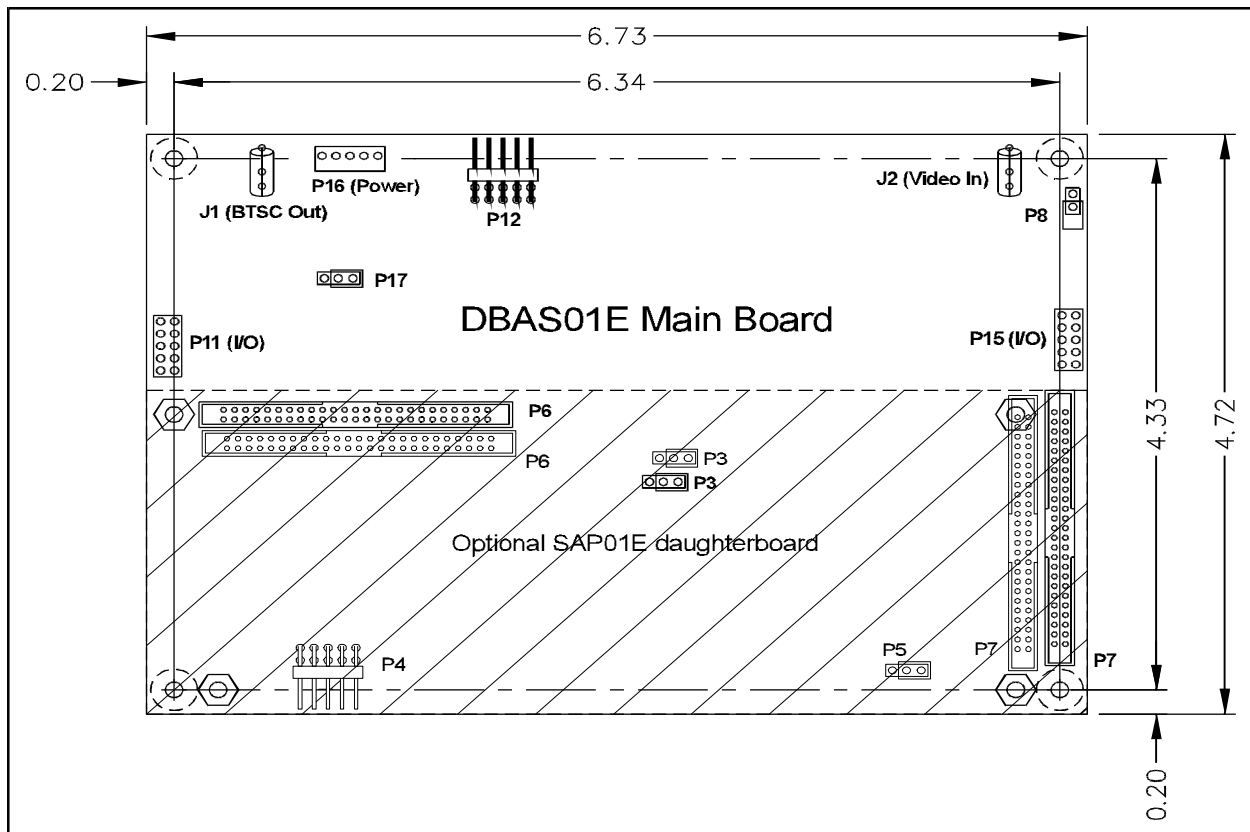

Figure 2. DBAS01E main board layout
Power and signals interface to the board by way of a number of connectors. In addition, there are five general purpose I/O pins which can be customized to provide an interface for control and indicator functions. The board ships in a default configuration, and the pinouts and external circuit information are shown in Figures 2 and 3. Interested customers should contact THAT Corporation for more information on alternative interfaces, and on adapting the DBAS01E encoder firmware for particular applications.
**NOTE:** Aside from jumpers P8 and P9 on the DBAS01E, do NOT remove or change the jumper locations without instructions from THAT Corporation technical personnel. The correct positions for all jumpers (except for the P9 shunt, installed only when a SAP board is present) are shown in Figure 2, and the DBAS01E is shipped in this configuration.